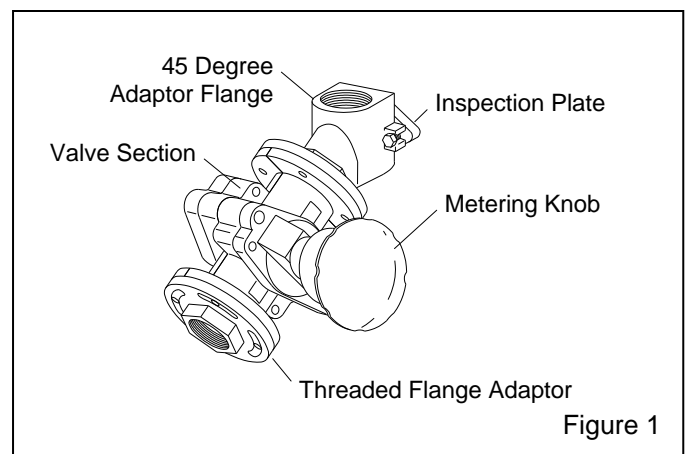

Figure 1
1.3 **Description and Application:** The manual pinch tube metering valve features the same construction and pinch tube metering design as the PVR pinch tube remote valves, which can be used with all types of abrasives including metallic abrasives. Components are shown in Figure 1.